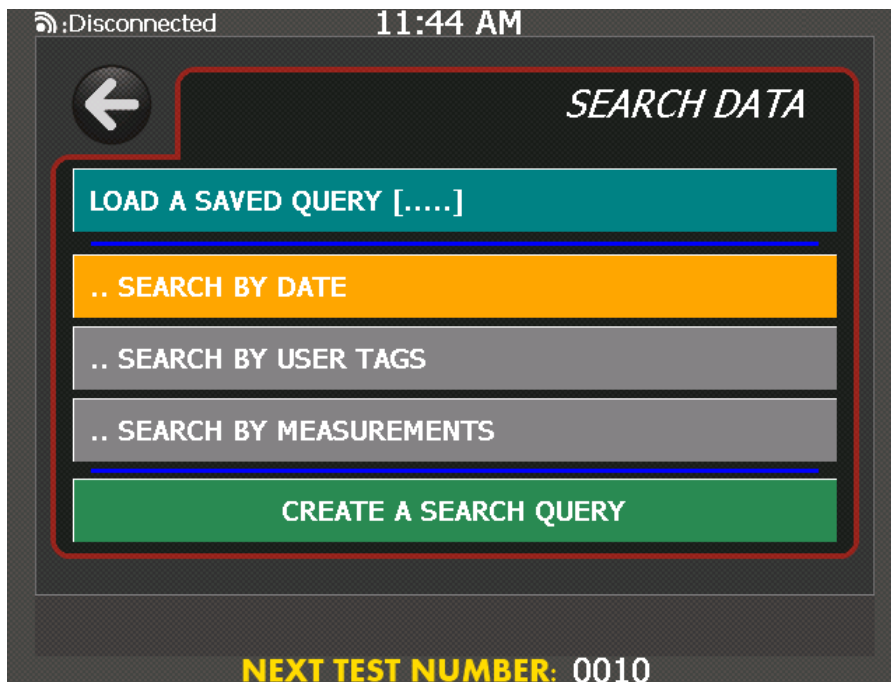

Figure 5.4.1. SEARCH DATA menu
- 2) Press the *SEARCH DATA* button. You will be presented with the *SEARCH DATA* menu (Figure 5.4.1).